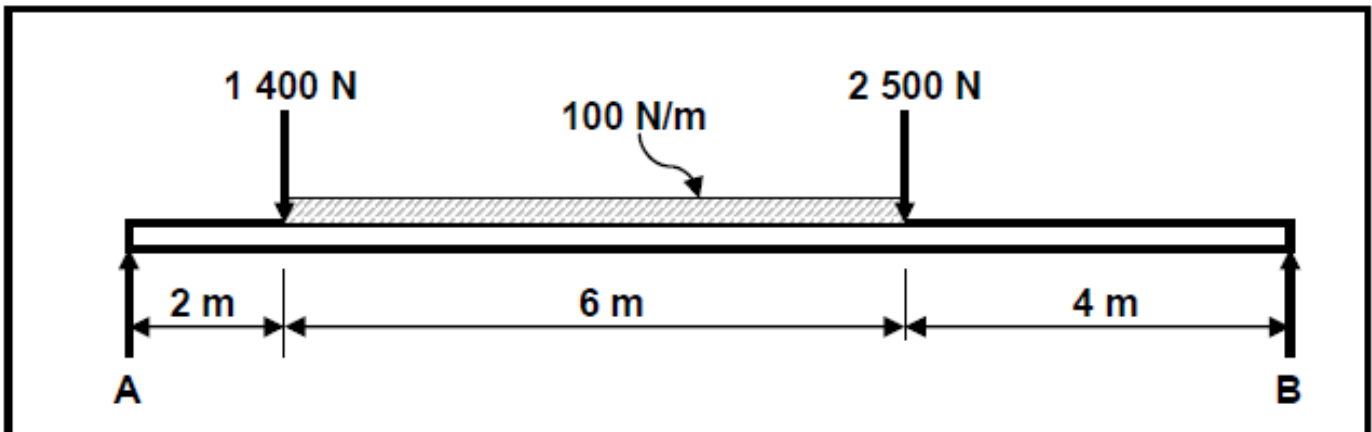

FIGURE: 3.2
3.2 FIGURE 3.2 below shows a uniform beam that is supported by two vertical supports, A and B. Two vertical point loads are exerted onto the beam, as well as a uniformly distributed load of 100 N/m, over a length of 6 metres of the beam. Determine, by means of calculations and using the turning points method, the magnitudes of the reactions in supports **A** and **B**. (6)